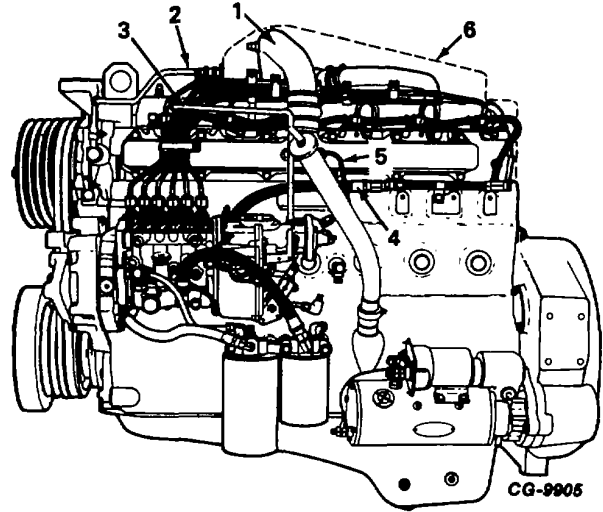
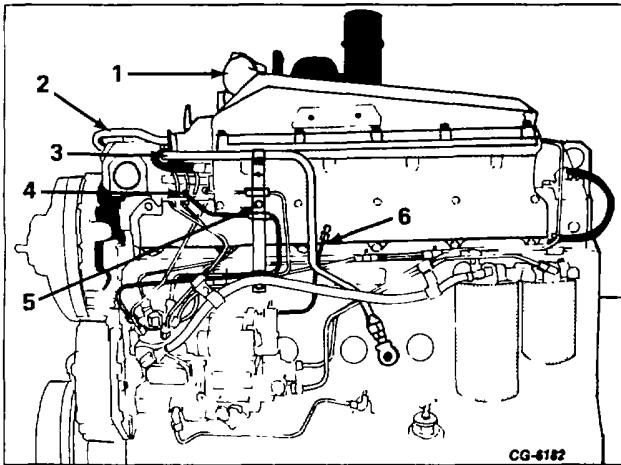

Figure 4a. - Left Side View (DTI-466C)
Figure 4. - Left Side View (DTI-466B)
1. Remove turbocharger to intercooler pipe (1, Fig. 4 or 4a).
2. Disconnect water inlet (2) and outlet hoses (3) at intercooler.
- b. (Figure 4 only) loosen clamps (4 and 5) which secure fuel lines to the intercooler.
- c. (Figure 4a only) disconnect fuel return line (4).
4. Remove aneroid tube (6, Fig. 4 or 5, Fig. 4a) and cap openings.
2. Install aneroid tube (6, Fig. 4 or 5, Fig. 4a) and fuel injection lines.